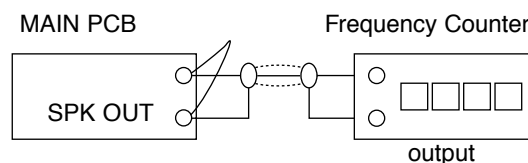

Figure 1-5
- 2) Connect the SPK OUT of the MAIN PCB to the frequency counter as in figure 1-5.